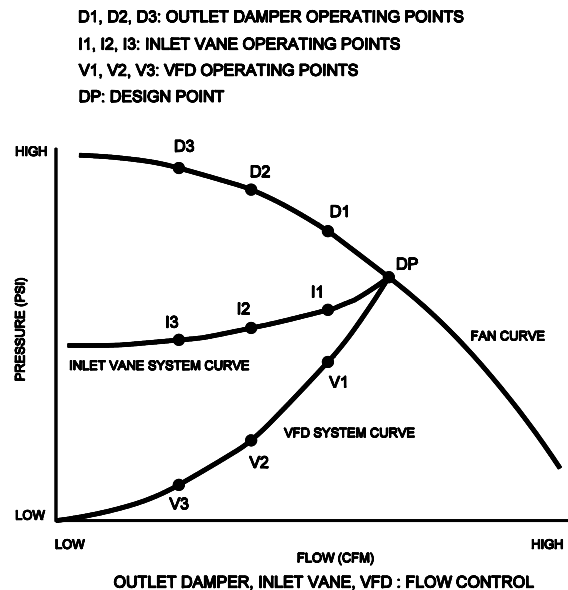

Figure 1.
The existing flow modulation method used on the system will determine the potential for energy savings when using VFD's. The savings potential is quite large if there is no modulation present as in the case of **Constant Volume** or **Uncontrolled** systems. **Outlet Damper** controlled systems use less energy than those using constant volume but the savings potential when using VFD's is still quite high. Systems using **Inlet Guide Vanes** are even more energy efficient than the above methods, but still leave the possibility for savings. Figure 1 illustrates the system curves for the above mentioned flow control methods.
The **VFD system curve** is derived by selecting an operating point on the desired **pump curve** and connecting the operating points of the revised pump curve as calculated by the affinity laws through the **static head** point, (SH). If the static head is high, the system curve can approach a **Constant Pressure** design (System C.P.). If the static head is low, the system curve will resemble the VFD system curve shown in Figure 1. **Basically, the lower the static head is, the greater the energy savings that will be achieved by using VFD's.** This does not mean that savings can not be realized by using VFD's on a constant pressure system - each installation must be evaluated on its own merit.